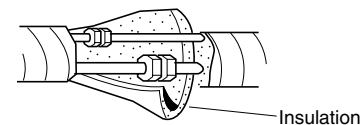

Fig. 3-150
- (1) Pass the tubing and drain hose into the rear of the indoor unit. Provide sufficient length for the connections to be made. Next, bend the tubing with a pipe bender, and connect them. (Fig. 3-150)